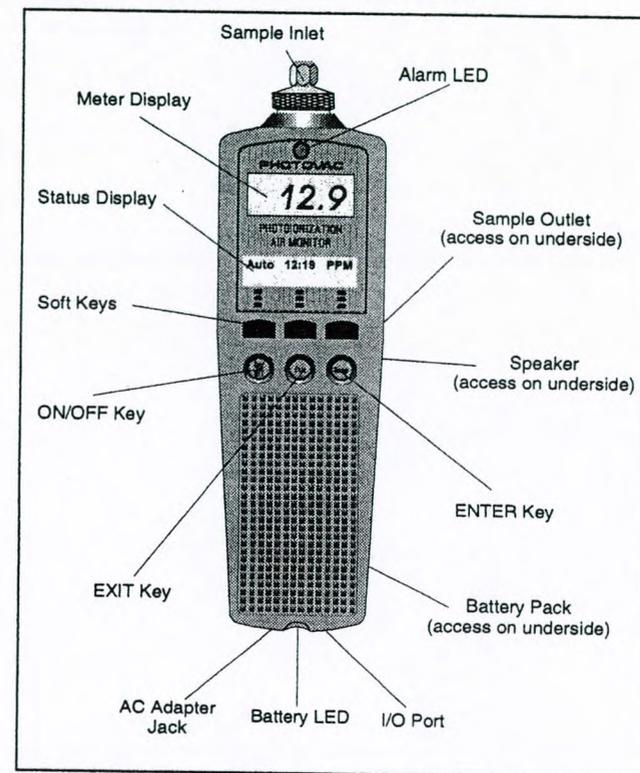

Figure 2 Layout of 2020
1. Turn 2020 on by pressing the ON/OFF key. See Figure 2 for the location of the ON/OFF key.